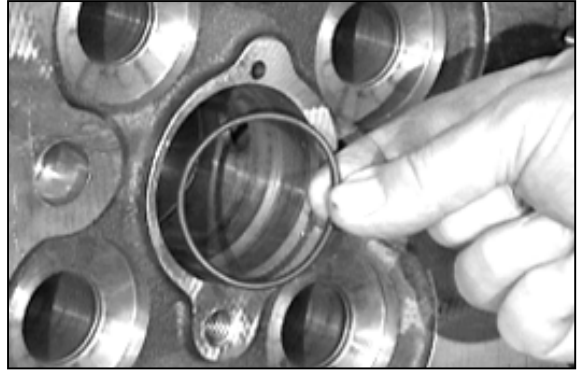

Fig.16 Fit a new 'O' ring into the cylinder head.
5. Fit a new 'O' ring into the cylinder head (**Fig.16**) and press or lightly tap the tube into position to be firmly seated on the lower face.